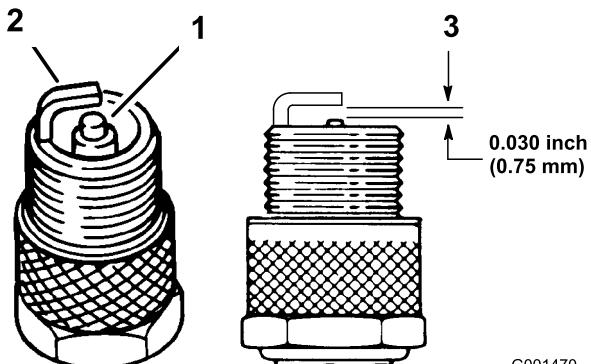

Figure 32
3. Connect the wires to the spark plugs (Figure 32).
1. Look at the center of the spark plugs (Figure 32). If you see light brown or gray on the insulator, the engine is operating properly. A black coating on the insulator usually means that the air cleaner is dirty.
3. Check the gap between the center and side electrodes (Figure 32). Bend the side electrode (Figure 32) if the gap is not correct.